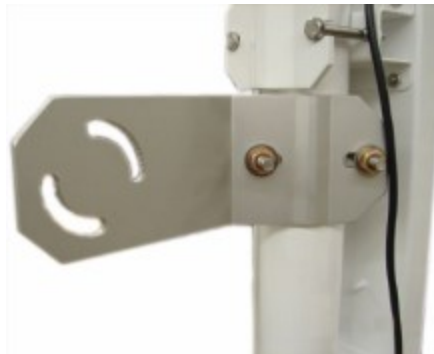

FIGURE 6-31. Antenna bracket mounted to pole
- b. Put a flat washer, lock washer, and a silicon bronze nut, in that order, on the ends of the U-bolt (FIGURE 6-31 (p. 46)).